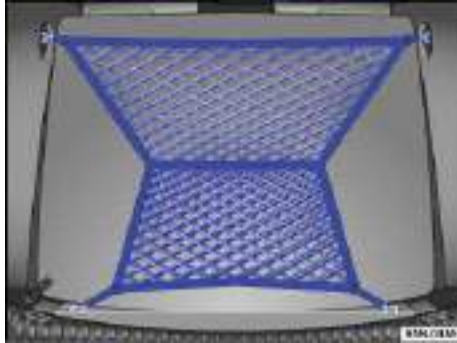

Fig. 104 In the luggage compartment: Luggage net hooked in place.
- First secure the luggage net hooks to the tie-downs at the rear seat backrest ⇒ fig. 104 ⇒ ⚠. The luggage net pocket opening must face upwards.